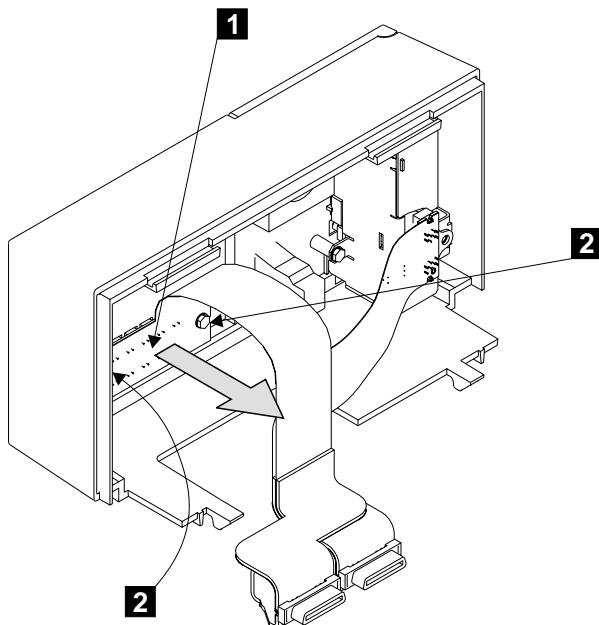

Figure 103. Removing the Disk Drive Status Lights Assembly from a Model T40
- Step 3. Refer to Figure 103.